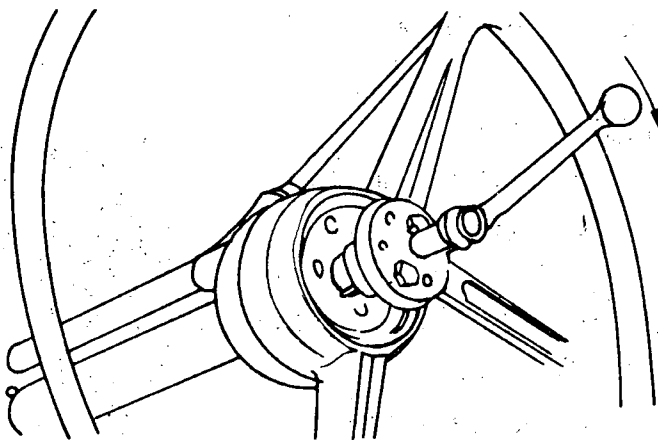

Fig. 1
- e) Position the extractor and remove the steering wheel (fig. 1).